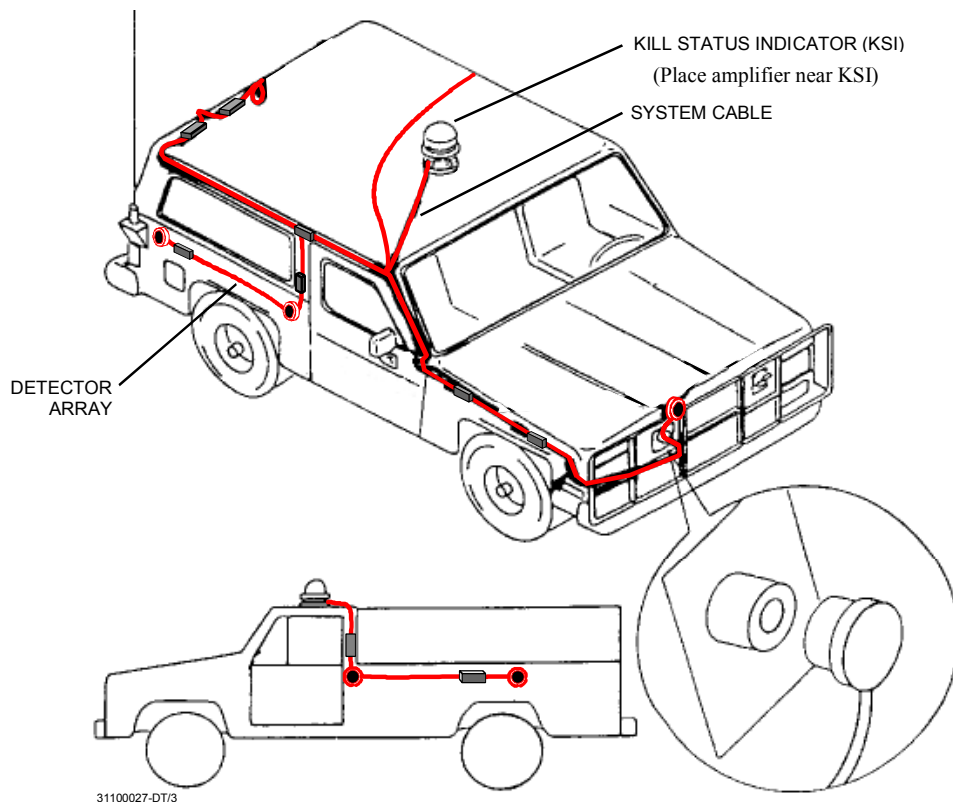

Figure 2-14. M1009 CUCV MILES Installation.
2.3.2.9 M1009 CUCV. (See Figure 2-14.) See Figure 1-2 for Independent Target System (ITS) components.